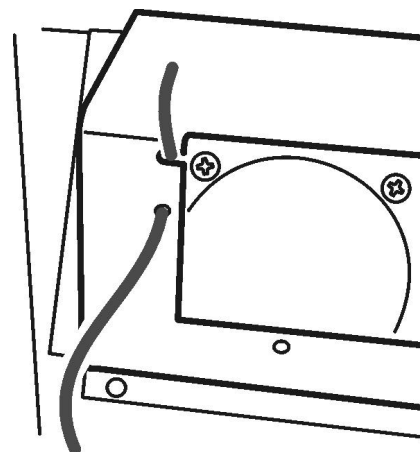

Figure 12. Upper cable retention
5. The rear of the hotbox has a flue opening. Locate one end of the cable through the small round hole to the side of the flue opening and up into the adjacent slot. Give the cables a pull so that they grip (See figure 12).